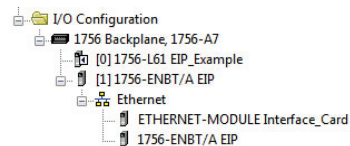

Figure 44: I/O Configuration Tree
- 6) After adding the I/O Module to the configuration, the full I/O Configuration tree should appear similar to Figure 44.